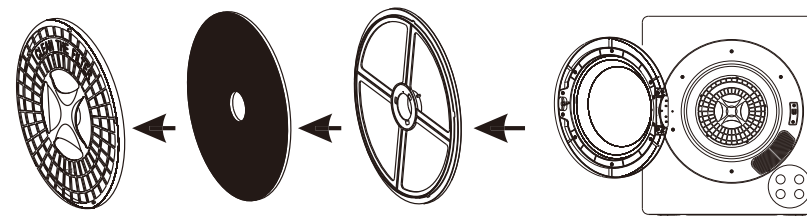

Fig.14
1. To remove the Lint Filter insert your fingers into the four holes that surround the Exhaust Vent Shroud and pull out the Filter Assembly. The Filter Assembly consists of three parts: the Exhaust Vent Shroud, the Lint Filter and the Exhaust Filter, as illustrated below (Fig. 14).